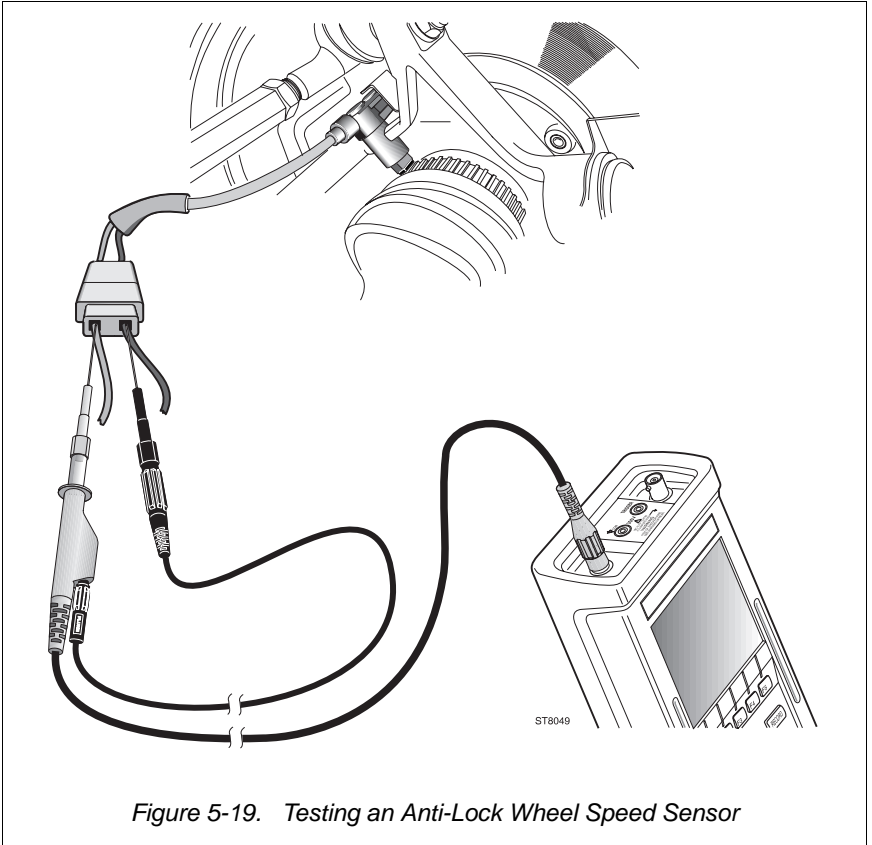

Figure 5-19. Testing an Anti-Lock Wheel Speed Sensor
- ①
- ②
- ③ Connect the test leads as displayed by the test tool's Connection Help and shown in Figure 5-19.
- ④  Starts the ABS Wheel Speed Sensor test. (See Figure 5-19 and 5-20.)